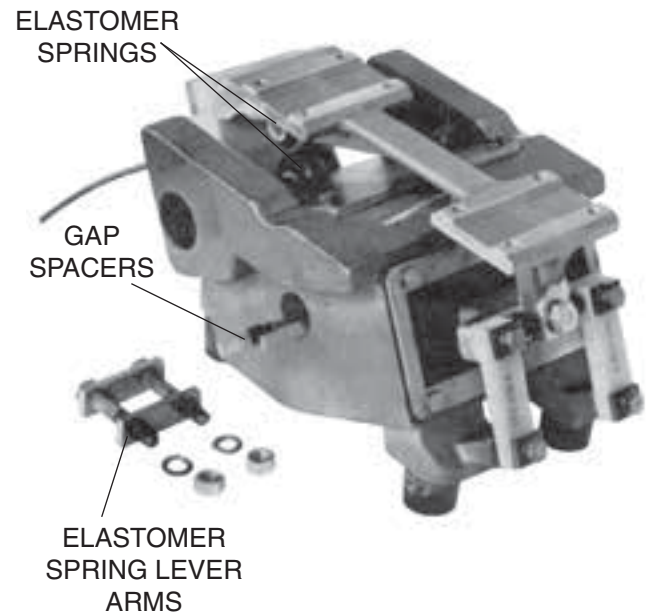

FIGURE 10
3. In replacing the elastomer springs, lay the unit on its side so that the chamfered ends of the spring holes are up. After making sure that the holes and their chamfered ends are clean and free from obstructions, lubricate the springs with a little soapy water (never use a petroleum or silicone lubricant) only and press them partly into place with the thumbs. Then tap the springs back into place, again using the small supporting block between tiebar and work surface. Make sure that the springs go in straight and that the steel inner sleeves protrude equally at both ends of both spring holes. See Figure 10.